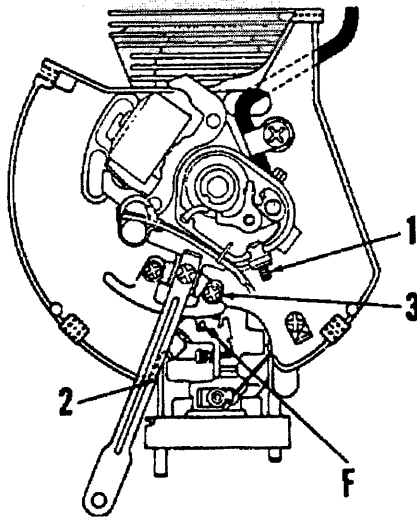

Fig. E2-7—View showing speed controls and points of adjustment for motors with pressed in fuel inlet type carburetors and breaker point magneto. Refer to text.
MODELS WITH BREAKER POINT MAGNETO. Before attempting to set ignition timing, make certain that breaker points are in good (or new) condition and gap at maximum opening is correct as described in the IGNITION paragraphs. The flywheel must be removed and wires from coil and condenser must be disconnected from breaker point terminal (1—Fig. E2-7 or E2-8).
Move speed control lever until side is aligned with edge of shroud base (2—Fig. E2-7). The follower (F) should be almost touching the cam.